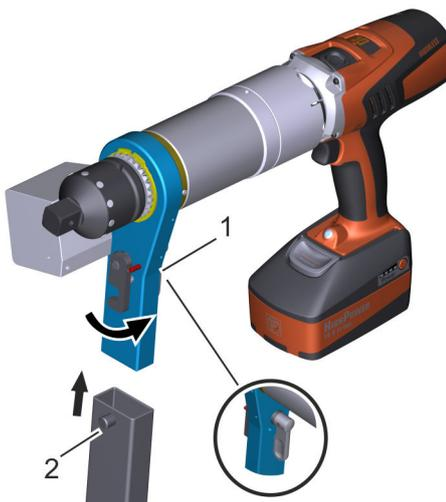

Fig. 25: Reaction arm
8. ➔ Turn the lever of the lock (Fig. 25/1).
9. ➔ Fully attach the middle part of the reaction arm (Fig. 25/2) and lock it.